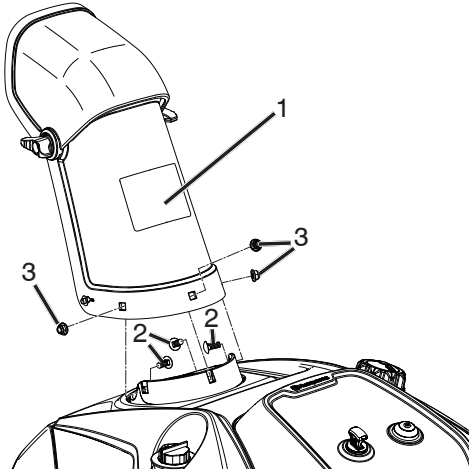

Figure 27
5. Remove the discharge chute by removing the three carriage bolts and three flange nuts (Figure 27).